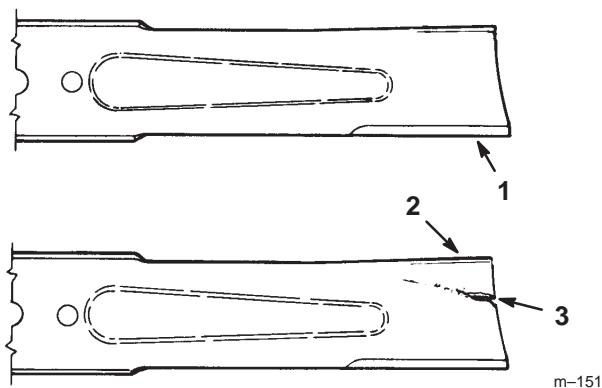

Figure 32
2. Inspect the cutting edges (Fig. 32). If the edges are not sharp or have nicks, remove the blade(s) and sharpen them; refer to Sharpening the Blade(s), page 28.
3. Inspect the blade(s), especially the curved area (Fig. 32). If you notice any damage, wear, or a slot forming in this area (Fig. 32), immediately install a new blade.